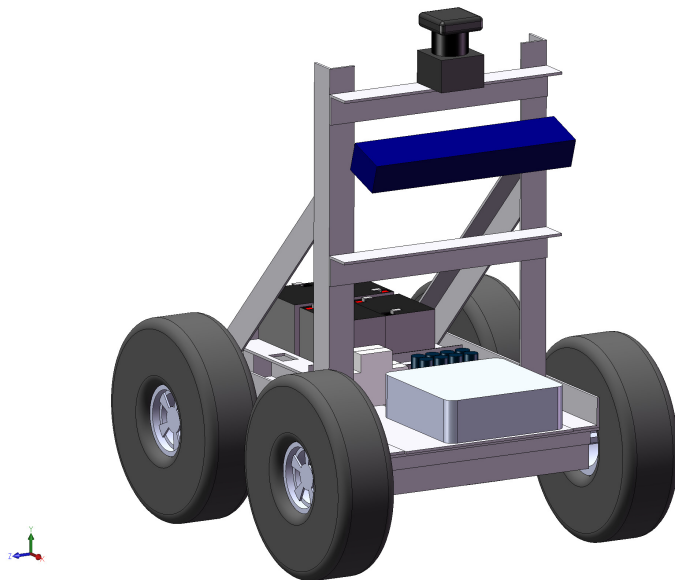

Figure 2: Rendering of a differential drive robot, equipped with encoders, IMU, 2-D LIDAR scanner, and an RGBD camera.
- The robot configuration is provided in RobotConfiguration.pdf. Fig. 2 shows a schematic of our robot. Even though the configuration says that the origin of the robot is at the back axle, it is arbitrary and you can choose your own origin. Using the geometrical center of the robot would yield better results since the differential drive motion model assumes that the robot is rotating around its center.